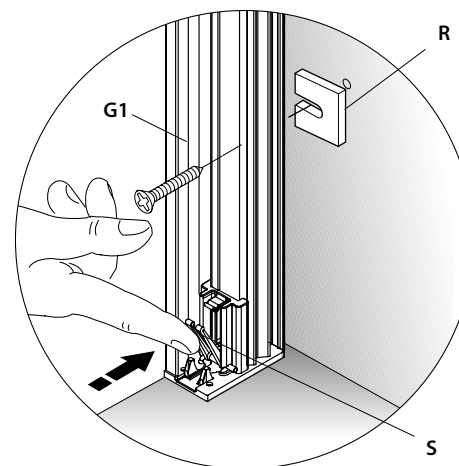

fig. 15
- On the wall, trace the position of the 4 or 6 holes present inside the cassette (**fig. 15 ref. A**).